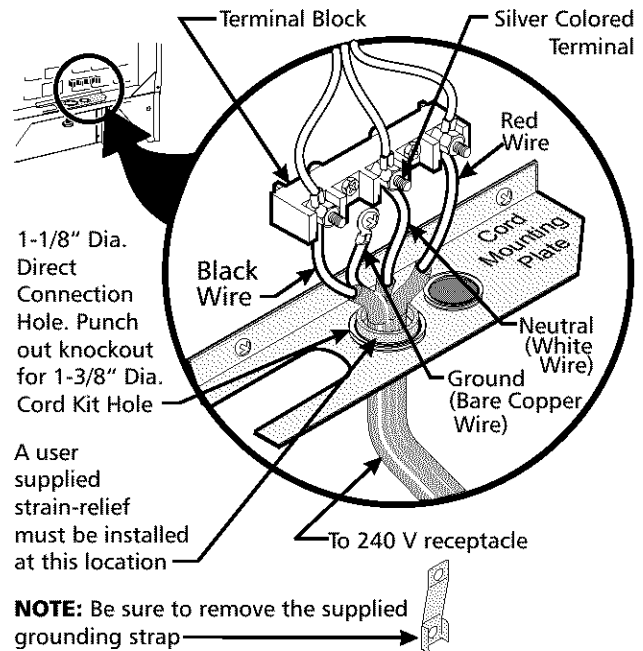

Figure 4
For mobile homes, new installations, recreational vehicles, or areas where local codes do not permit grounding through neutral, a 4 conductor power supply cord kit rated at 125/250 volts minimum, 40 amperes and marked for use with ranges should be used (see Figure 4).
- Connect the ground wire (green) of the copper power supply cord to the frame of the appliance with the ground screw, using the hole in the frame where the ground strap was removed (see Figure 4).
- Replace the 3 nuts on the terminal block (see fig. 4).
If the appliance is connected directly to the circuit breaker, fuse box or junction box, use flexible, armored or non metallic sheathed copper cable (with grounding wire). Supply a U.L. listed strain-relief at each end of the cable. At the appliance end, the cable goes through the Direct Connection Hole (see figure 4) on the Cord Mounting Plate. Wire sizes (**copper wire only**) and connections must conform to the rating of the appliance.